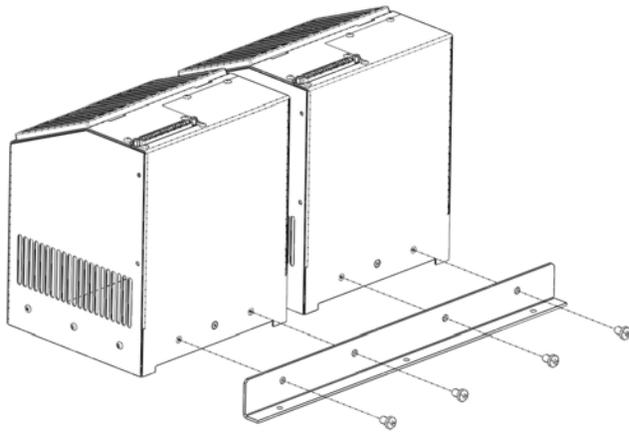

Figure 9. Mount Remaining Arrays on Cradel Adapter
3. Mount the LED Array-to-Cradle Adapter (41987) to the two remaining Arrays using four M5 x 8-mm screws (39166) (Figure 9).